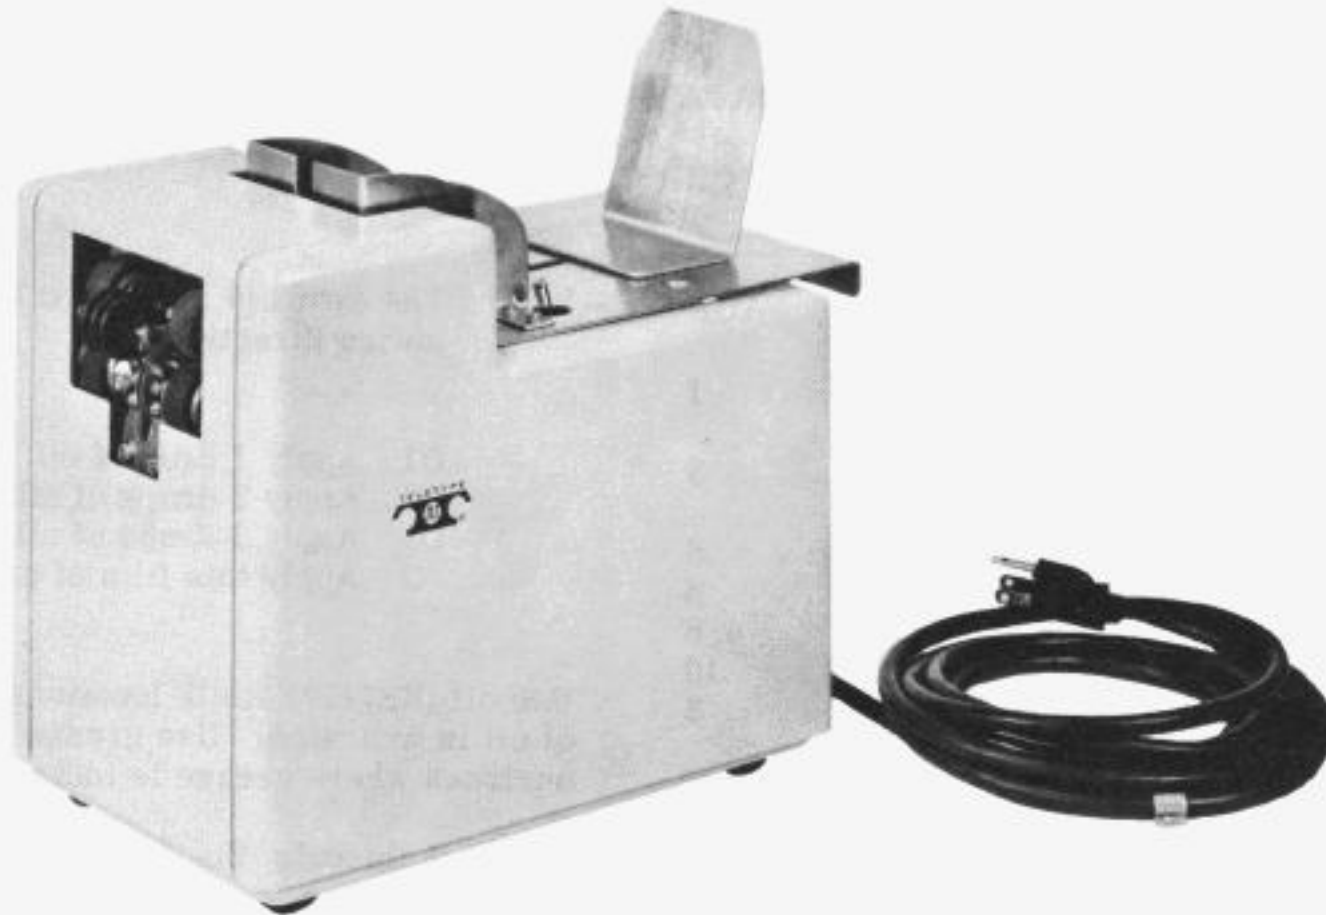

Figure 1 - Edge Punched Card Feeder (Left Front View)
1.01 This section provides lubrication for the 35 "CARDATA" feeder (edge punched card feeder) (Figure 1).